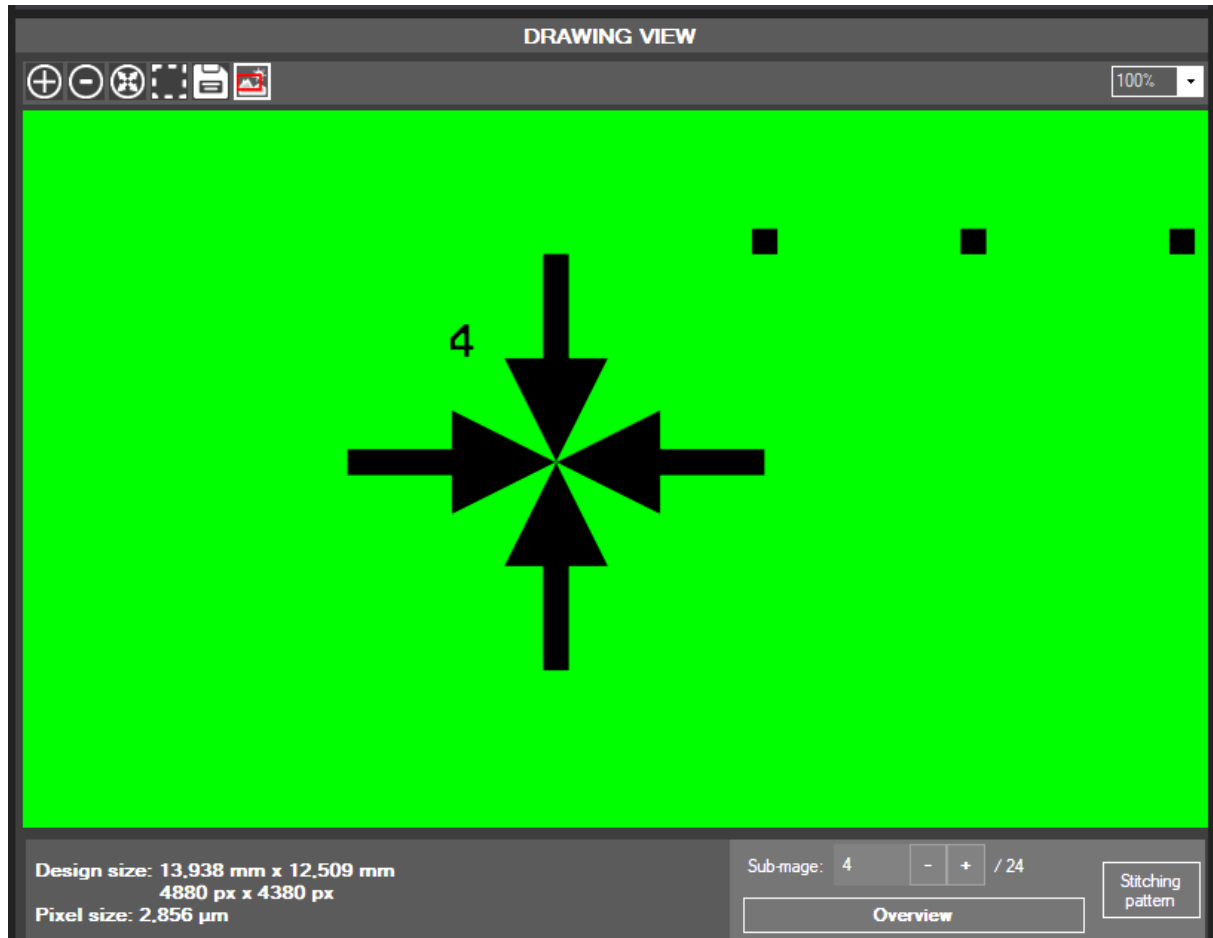

Figure 60 - Semi-auto alignment: defining optional point P2
- [Optional step] Selection of point P2 (Figure 56d): selecting a second point of interest in stitched drawing is useful to improve the substrate rotation adjustment and then the overall quality of the alignment. To do so, click on **(Overlay pos. P2)**. Select a point in the drawing viewer on sub-image different from the one of point P1 as illustrated in Figure 60